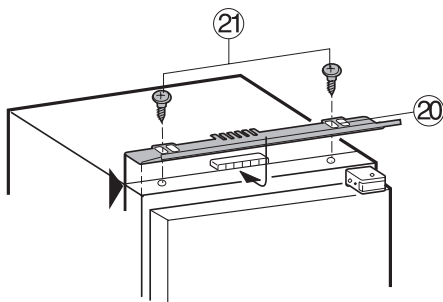

Figure 15
1. Insert the equalizer trim (Fig. 15, 20) in the slot so it is **flush on the handle side** and on the edge of the appliance front. Secure to the appliance with collar screws (Fig. 15, 21).